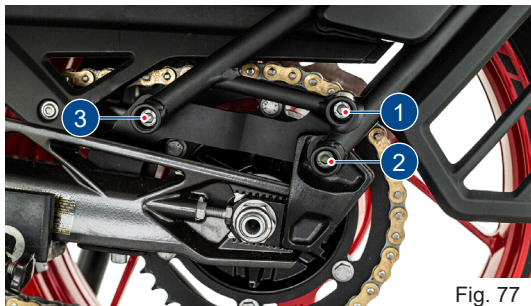

Fig. 77
- Remove the rear mounting screws (1 & 2) of rear wheel hugger (**ref. Fig. 77**).
- Slightly loosen the front mounting screw (3) of rear wheel hugger (**ref. Fig. 77**).
- Tilt the rear wheel hugger upwards and retighten the front mounting screw (3) of rear wheel hugger.
- Slightly loosen the front mounting screw (3) of rear wheel hugger (ref. Fig. 77).
- Position the rear wheel hugger properly. Assemble and tighten the rear mounting screws (1 & 2) of rear wheel hugger (ref. Fig. 77).
- Finally tighten the front mounting screw (3) of rear wheel hugger.